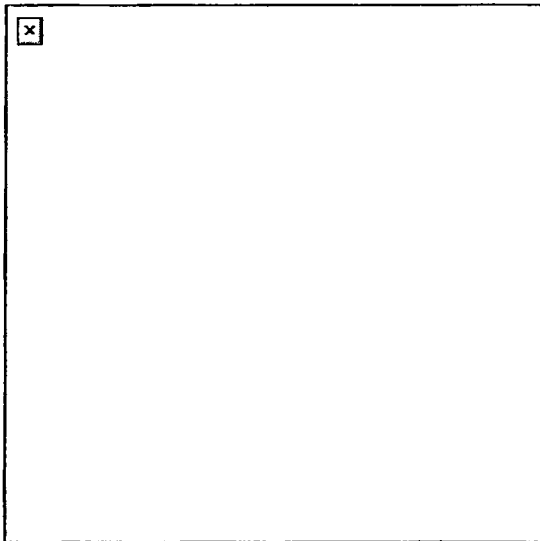

Figure 21. Engaging the secondary drive lever.
- g. Engage the secondary drive lever (Figure 21).